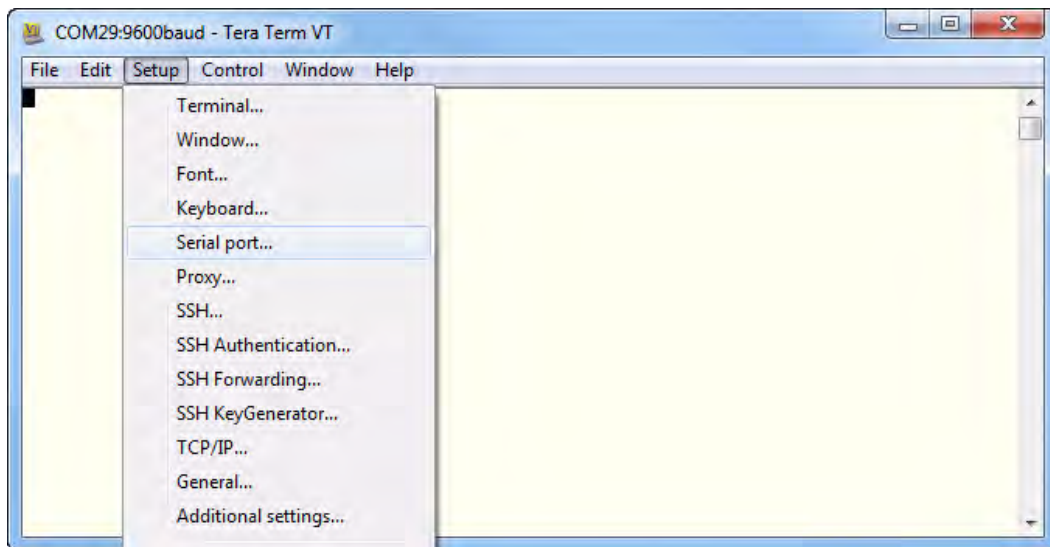

Figure 3. USB Serial Port Selection
3. Launch the Tera Term virtual terminal console software so that it is running on both PCs. In Tera Term, select **Serial Port...** from the **Setup** menu to open the **Tera Term: New connection** dialog box, as indicated in Figure 3.